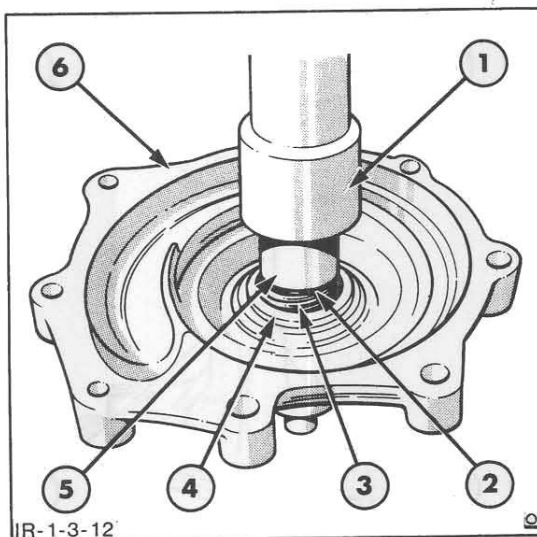

Figure 12
4. Place Tool No. FT6209 or 4672 over the shaft and onto the seal assembly. Press the seal into the bore until the flange is flush with the top of the housing, Figure 12.